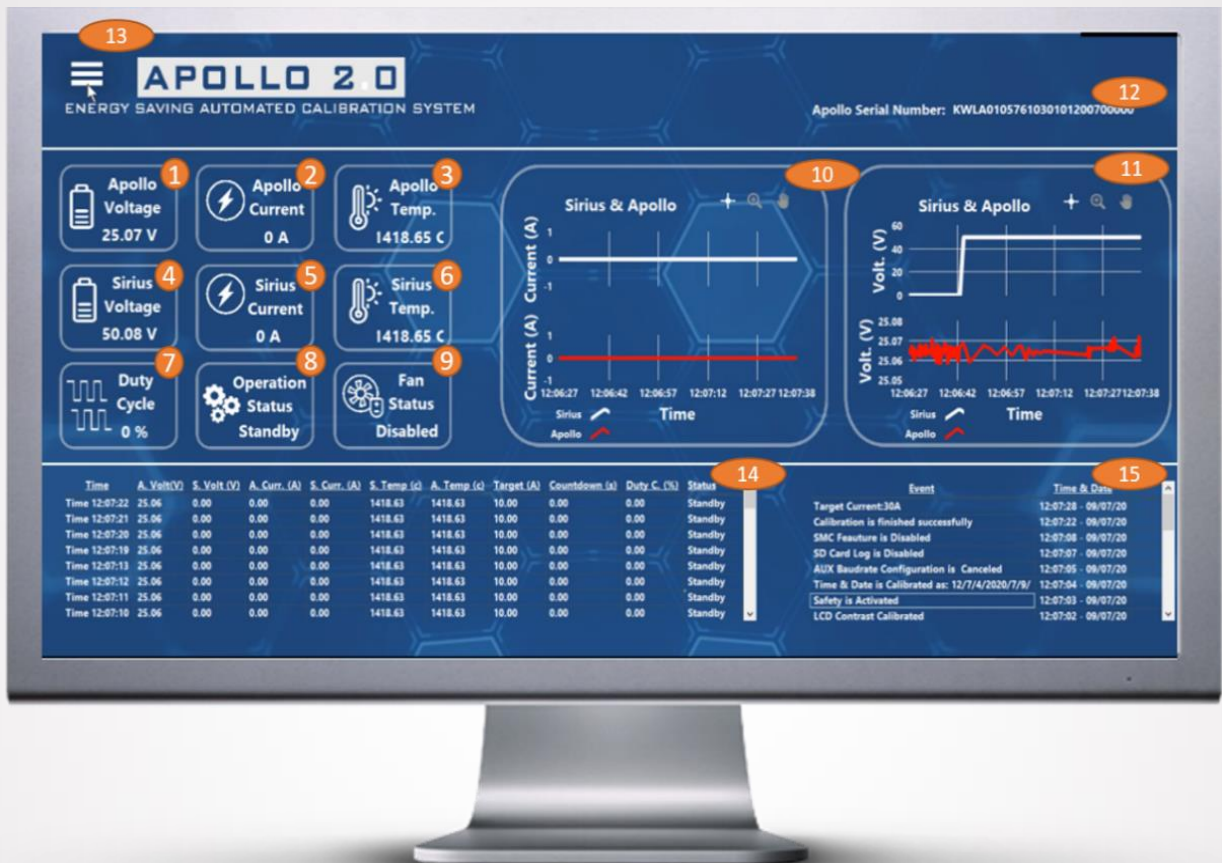

Figure 16. Apollo System Details
Step 5: During the charging or discharging operation, Apollo System will display all the details of both Sirius Module and Apollo as shown in Figure 16.